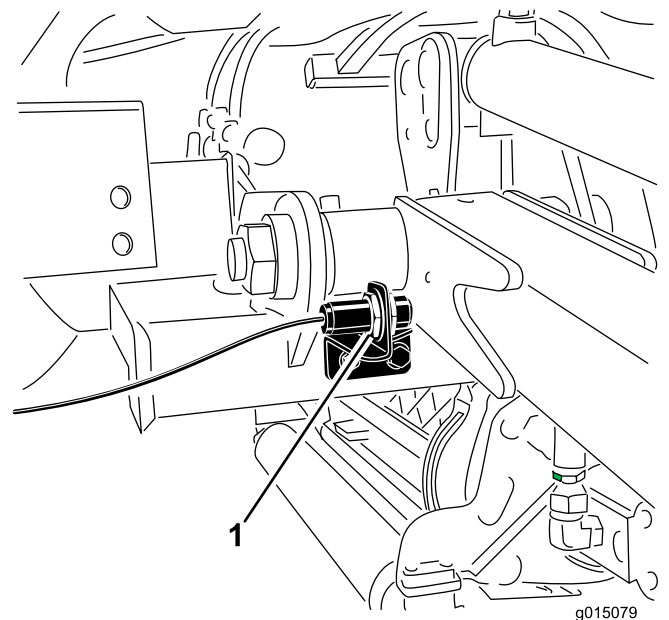

Figure 36
2. The lift arm switch is located behind the front right lift arm (Figure 36).
3. Loosen the switch mounting screws (Figure 36) and move the switch up to increase the lift arm